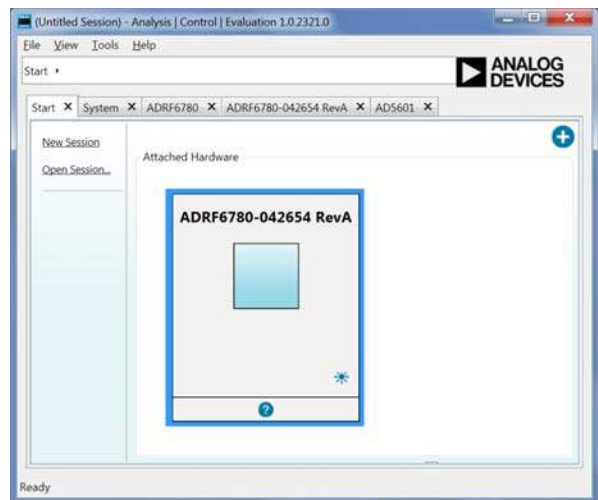

Figure 8. Attached Hardware Section when the ADRF6780-042654, Rev. A (ADRF6780-EVALZ) Is Connected
3. Open the ACE software. The ADRF6780-042654, Rev. A (ADRF6780-EVALZ) appears in the **Attached Hardware** section (see Figure 8). Double-click on the evaluation board plugin. If the device is turned off and on, or if the USB cable is unplugged and plugged in, while the ACE software is open, you may lose contact with the ADRF6780-EVALZ. If this happens, click the **System** tab, then click the **USB** symbol on the ADRF6780-042654, Rev. A subsystem, and then click **Acquire** to talk to the ADRF6780-EVALZ again.